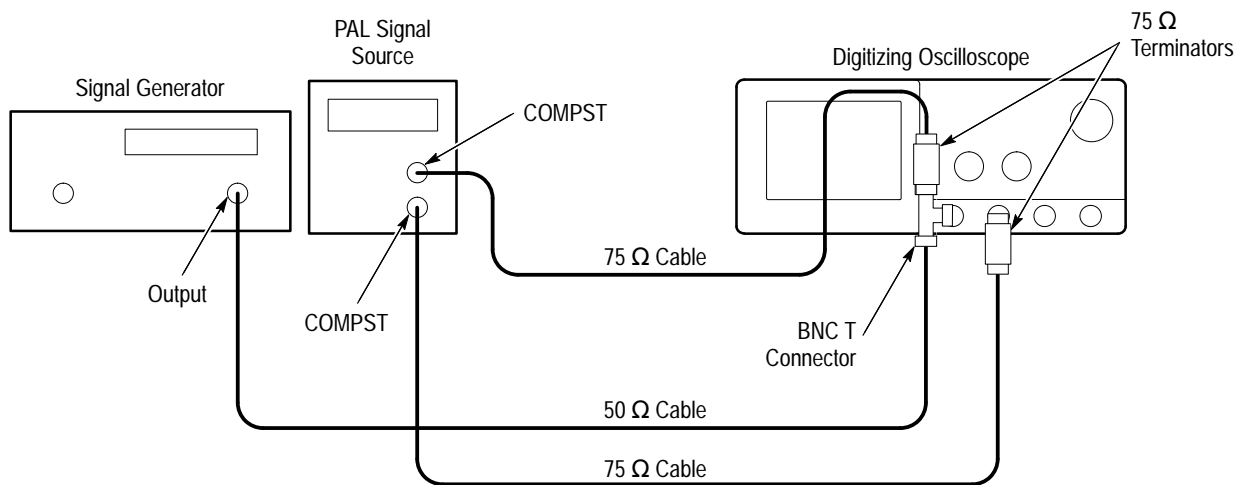

Figure 1–32: Subsequent 60 Hz Rejection Test Hookup
- Connect another composite signal connector of the PAL signal source (labeled **COMPST** on the TSG 121) through a 75 Ω cable and a 75 Ω terminator to the CH2 input. See Figure 1–32.
- CONFIRM that the **TRIG'D** LED stays lighted and that the waveform on screen is stable. In other words, be sure the waveform does not move horizontally or vertically. Also, confirm that the waveform on the screen has one positive pulse and a number of negative pulses. See Figure 1–33.